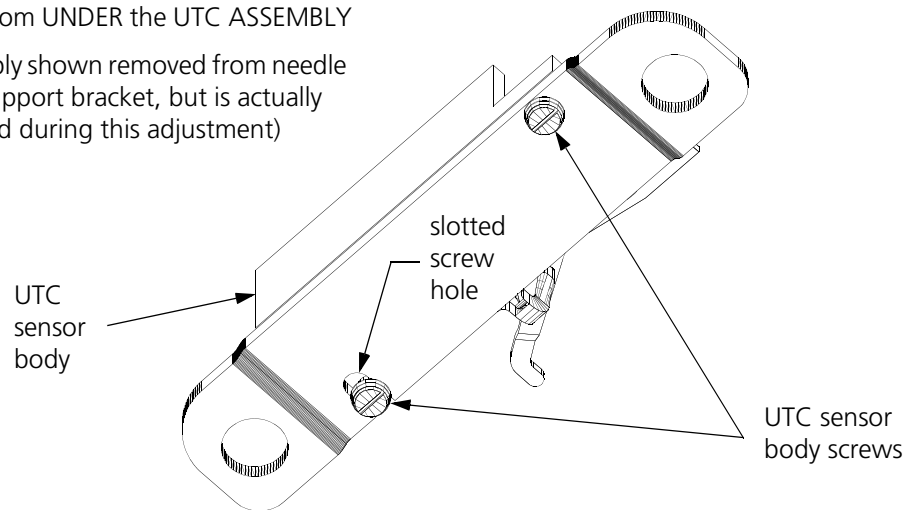

Figure 4-31
4. If the sensor does not detect when the bobbin runs out of thread, slightly loosen the UTC sensor body at the screws shown in Figure 4-31, and at the slotted screw hole (left side) move the sensor a very small amount away from the needle. Retighten the screws.
2. If you get false CHECK BOBBIN messages, slightly loosen the UTC sensor body at the screws shown in Figure 4-31, and at the slotted screw hole (left side) move the sensor a very small amount closer to the needle. Retighten the screws.